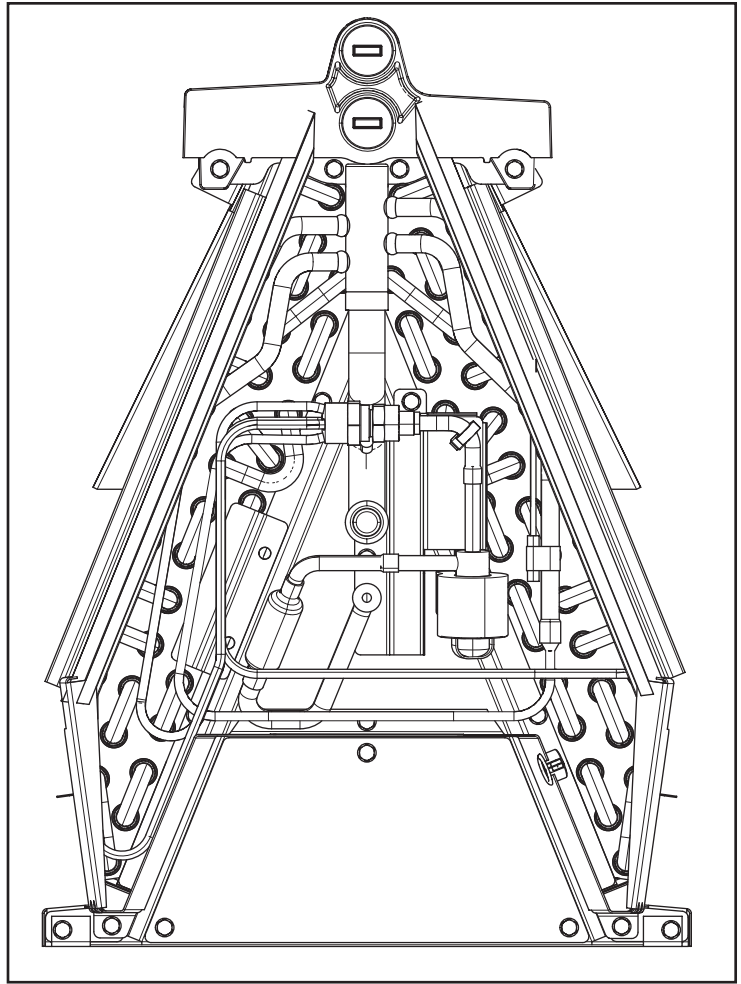

Figure 86 – Completed assembly
15. See Figure 86 for image of completed coil.